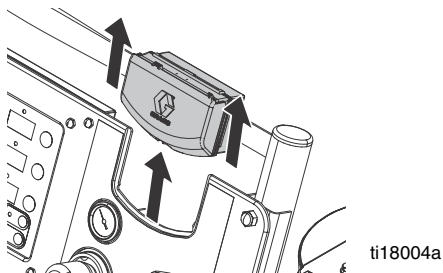

FIG. 17. Remove DataTrak
3. Remove DataTrak module from bracket. See FIG. 17. Take module and attached cable to a non-hazardous location.